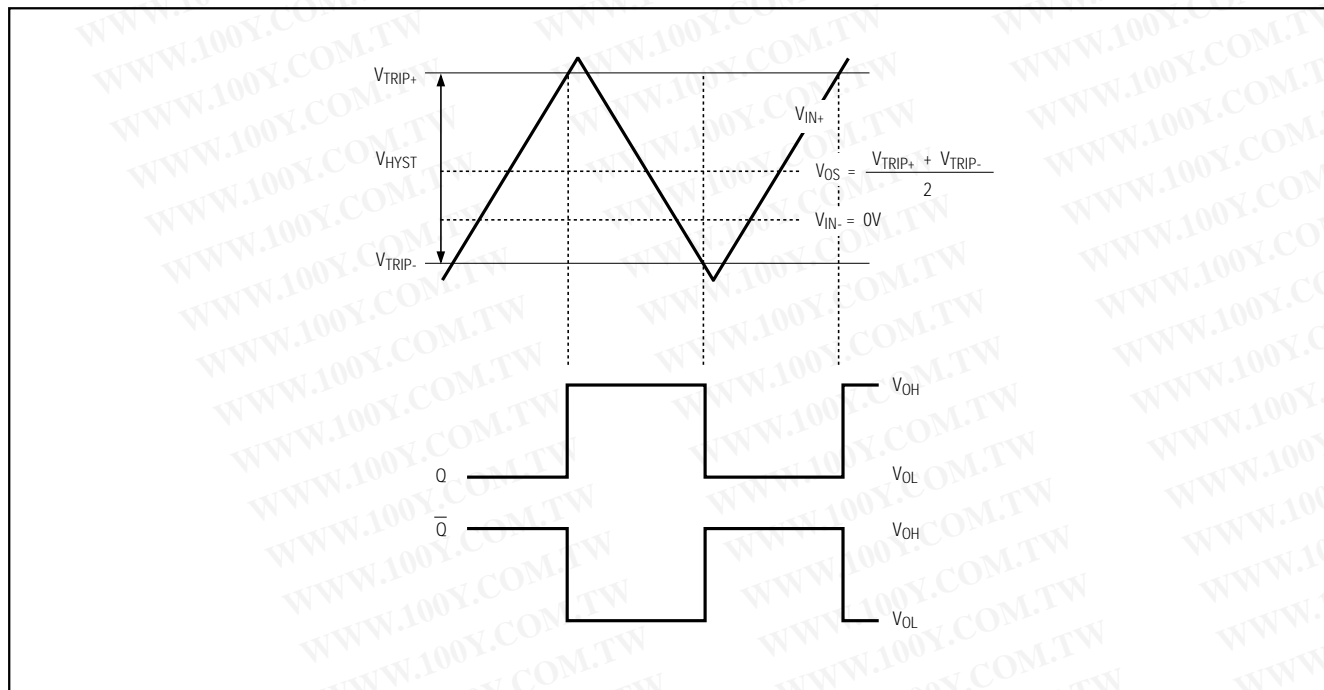

Figure 1. Input and Output Waveforms, Noninverting Input Varied
**Note 3:** The input-referred trip points are the extremities of the differential input voltage required to make the comparator output change state. The difference between the upper and lower trip points is equal to the width of the input-referred hysteresis zone. (See Figure 1.)
The added hysteresis of the MAX961–MAX964/MAX997/MAX999 creates two trip points: one for the rising input voltage and one for the falling input voltage (Figure 1). The difference between the trip points is the hysteresis. When the comparator's input voltages are equal, the hysteresis effectively causes one comparator input